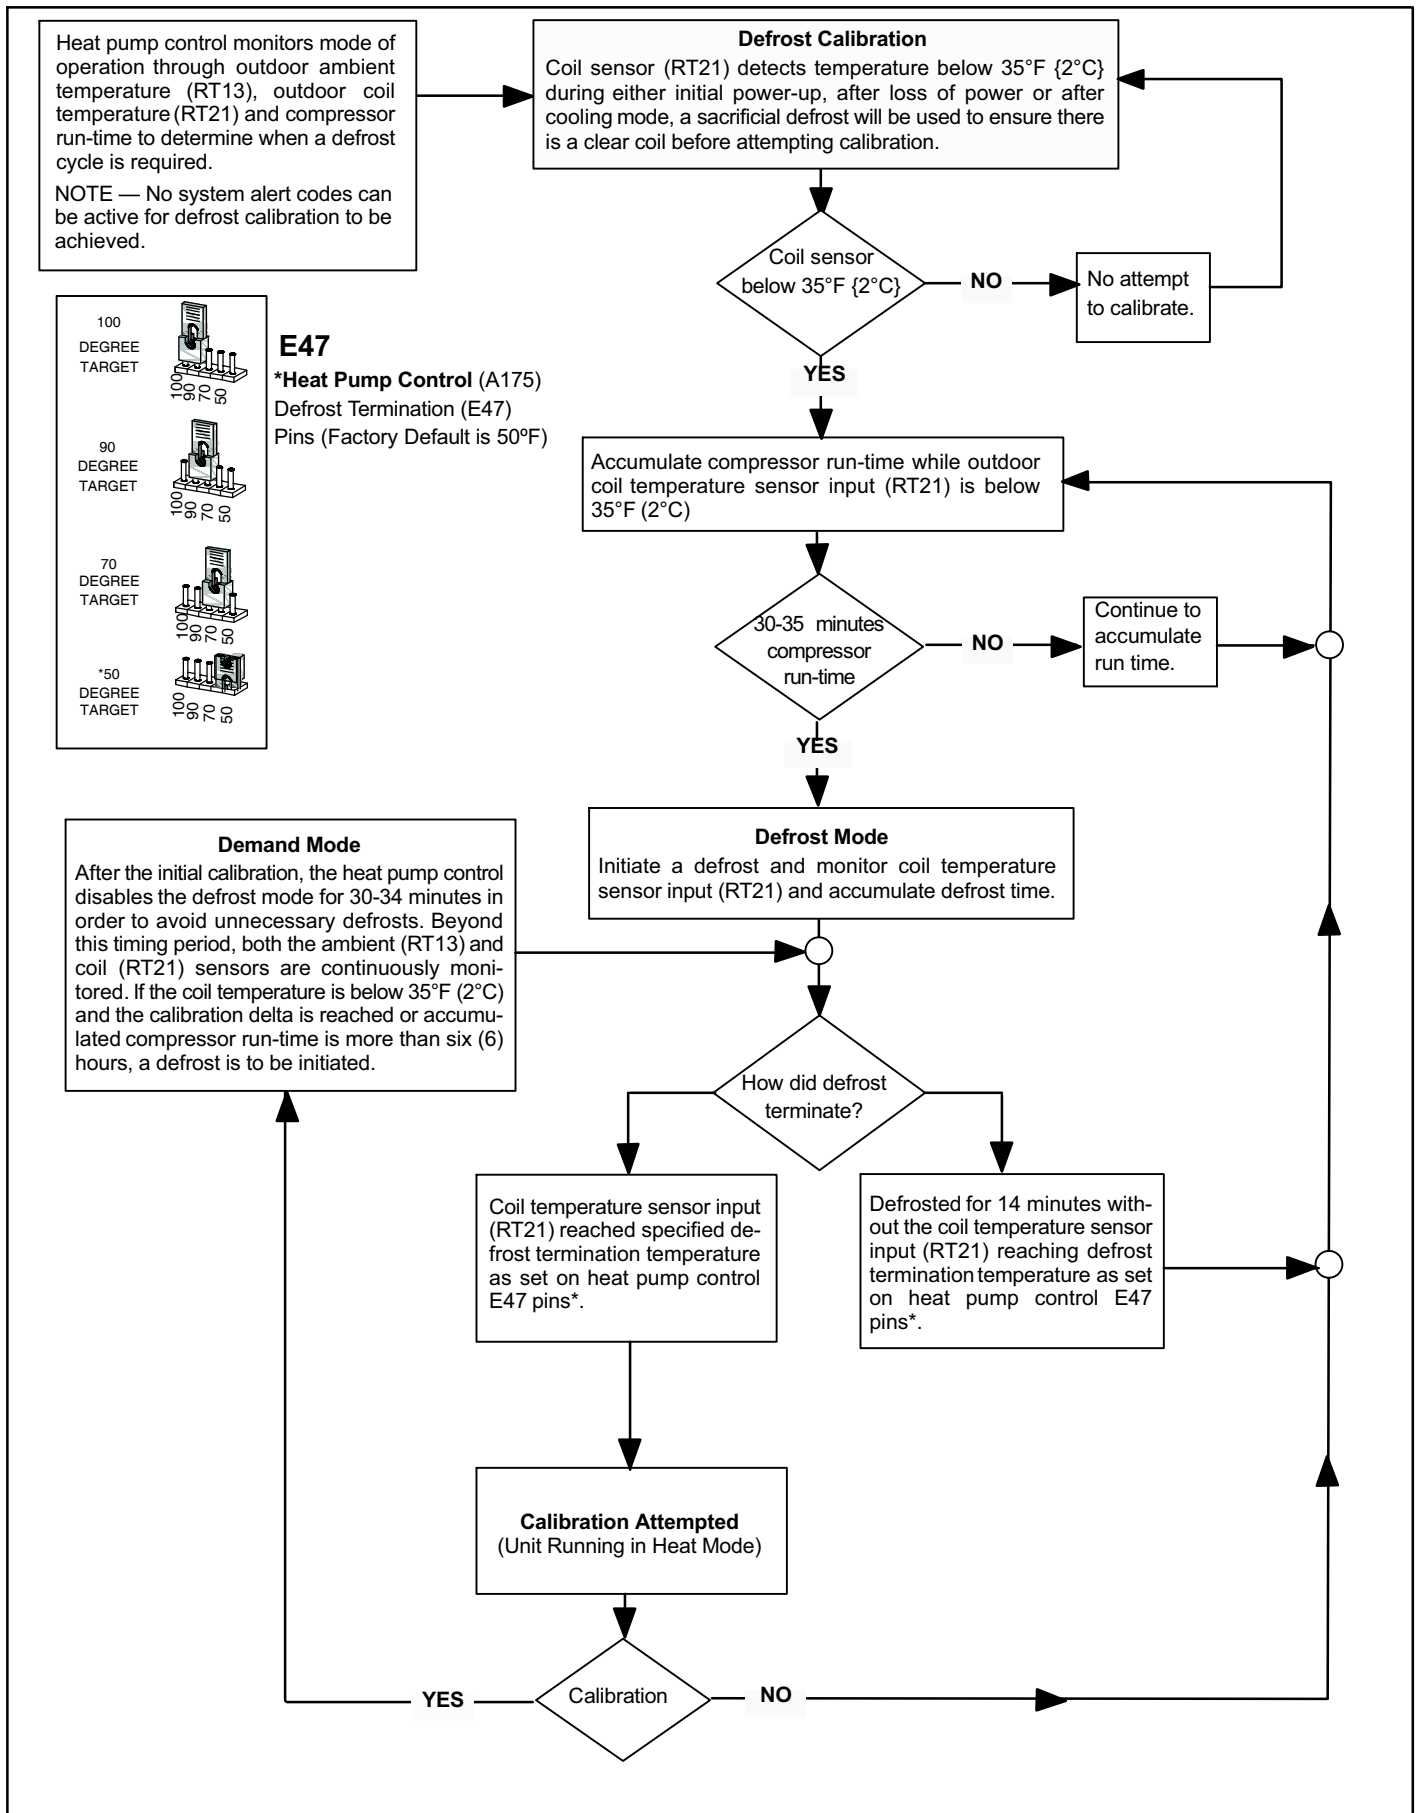

Figure 27. Defrost Calibration Sequence of Operations
The heat pump control (A175) measures differential temperatures to detect when the system is performing poorly because of ice build-up on the outdoor coil. The heat pump control self-calibrates (see figure 27) when the defrost system starts and after each system defrost cycle. The heat pump control monitors ambient temperature, outdoor coil temperature, and total run-time to determine when a defrost cycle is required. The coil temperature sensor is designed with a spring clip to allow mounting to the outside coil tubing. The location of the coil sensor is important for proper defrost operation (see figure 1 for location of coil sensor).
- Defrost calibration and operation (see figure 27)
If the temperature jumper is **not installed**, the default termination temperature is **90°F (32°C)**. See figure 27 for on how this settings affects defrost calibration and defrost modes.